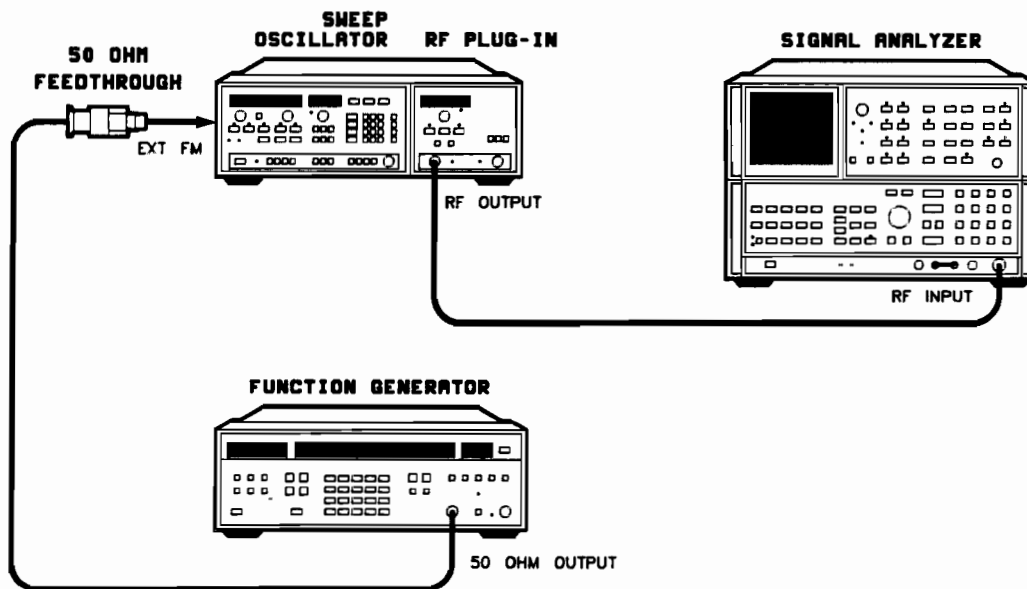

Figure 4-8. 100 Hz External Frequency Modulation Test Setup
2. Connect the equipment as shown in Figure 4-8. Turn all instruments on and allow them to warm-up for 30 minutes